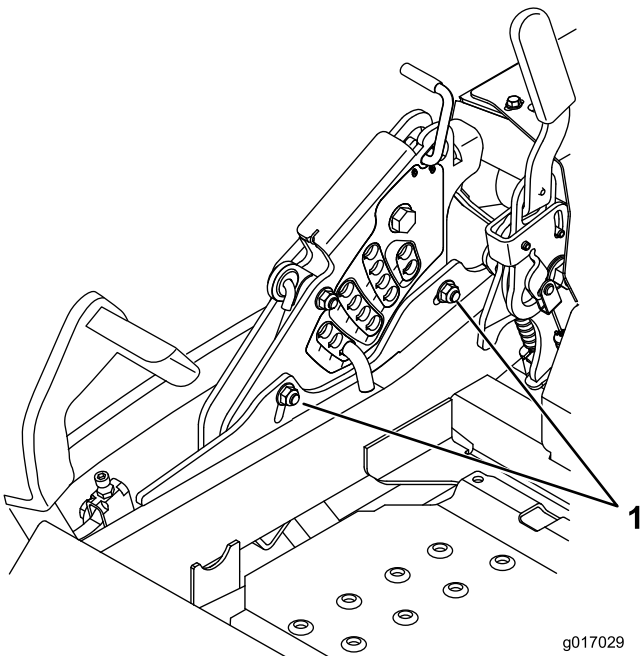

Figure 95
12. To adjust the single point system, loosen the 2 bolts at the bottom of the height-of-cut plate. Refer to Figure 95.
14. Tighten the 2 bolts at the bottom of the height-of-cut plate (Figure 95). Torque them to 37 to 45 N-m (27 to 33 ft-lb).